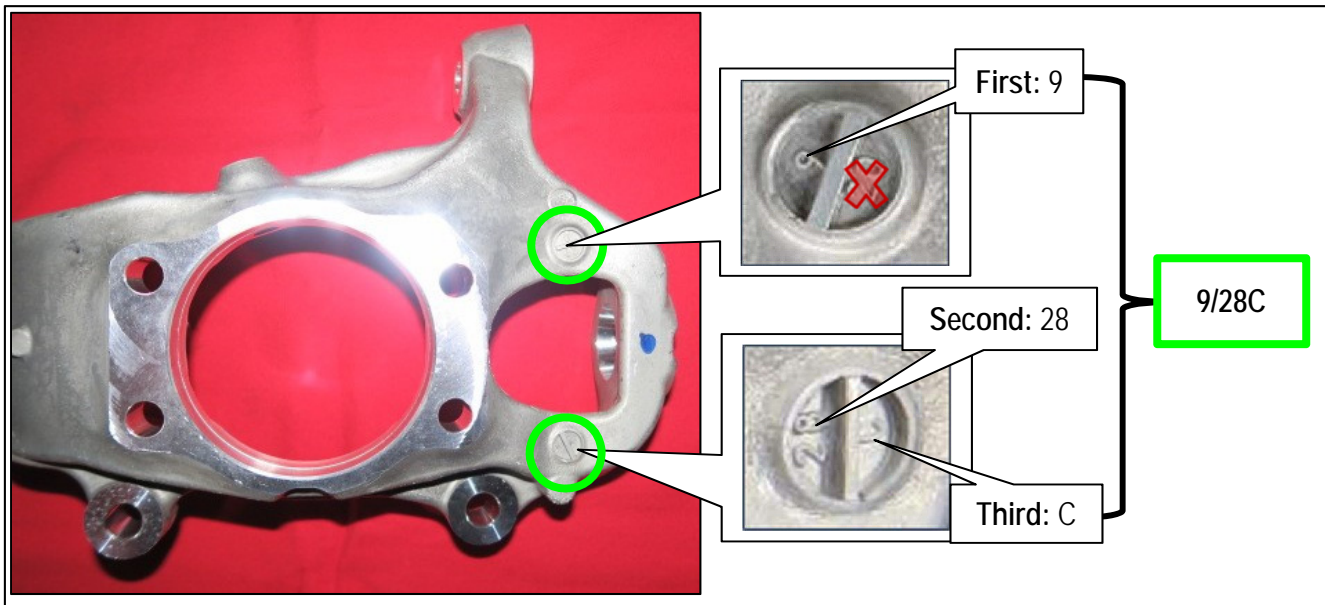

Figure 19
15. Locate the casting stamp dates on each suspension knuckle, where indicated in Figure 19.
NOTE: Orient the suspension knuckle as shown in Figure 19 (RH side is shown, LH side will be reversed).
- a. Write down the upper digit of the casting stamp nearest the tie rod end mounting point. This will be the first digit of the casting stamp date. This is the number "9" of the example below in Figure 19.
- c. Write down the upper digit followed by the lower digit of the casting stamp furthest from the tie rod end mounting point. This is the number "28" followed by the letter "C" of the example below in Figure 19.